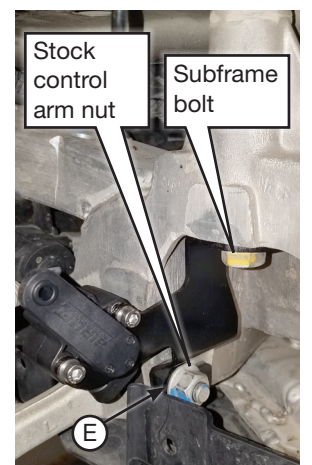

fig. 7
- Remove the inner lower control arm nut. Fit the flange on the upper bracket around the subframe bolt. Reattach the lower control arm nut with the lower control arm bolt\*\*\* and the tabbed washer (E) and the bracket in place (Fig. 7). See chart for torque specifications.